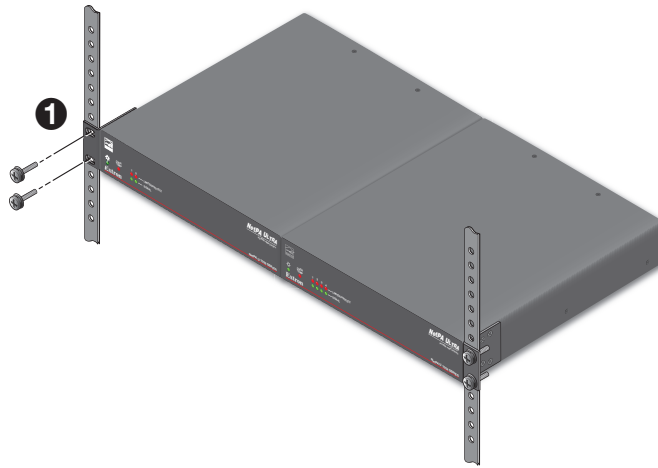

Figure 4. Secure Connected NetPA Ultra Series to Rack
6. Secure the amplifiers to the rack using the four provided 10-32 3/4" screws (see figure 4, ❶ on the next page).